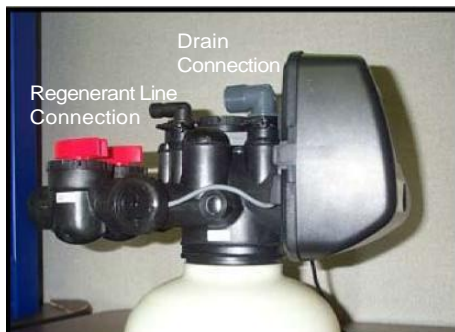

Figure 6a
7. Connect the regenerant line found in the regenerant tank to the regenerant connection on the control valve. The control valve has a standard refill elbow to which a 3/8" flexible tube can be connected, see figure 6a, page 6. (An optional elbow can be ordered which accommodates a 1/2" flexible tube for a high regenerant draw rate situation). Both elbows use the same refill flow control and retainer. Make sure the floor is clean beneath the regenerant tank and that it is level and smooth.